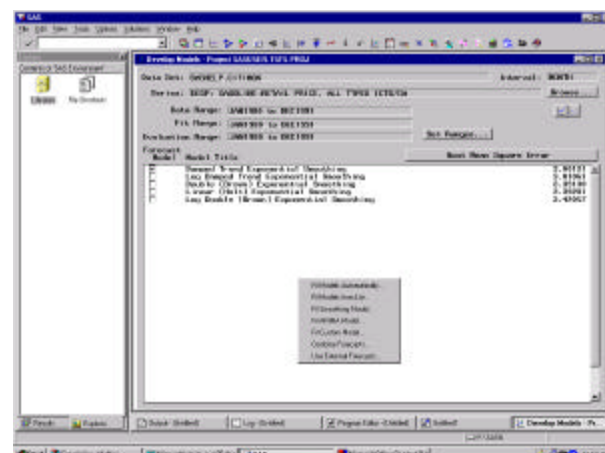
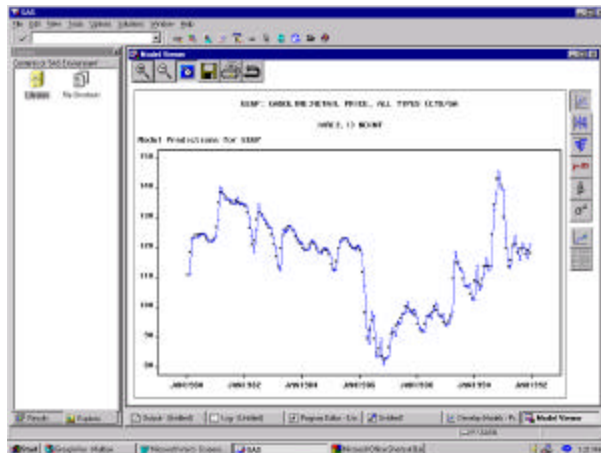
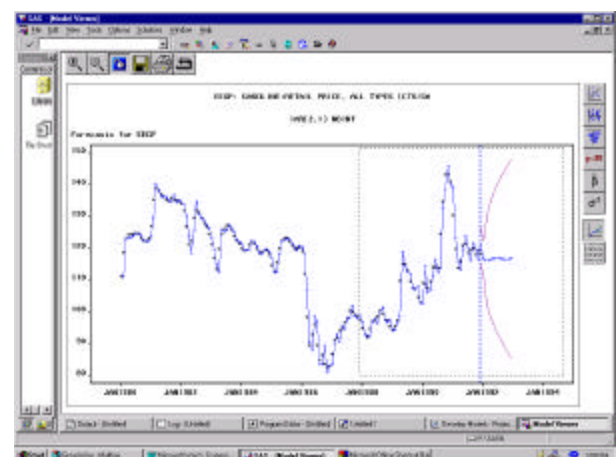
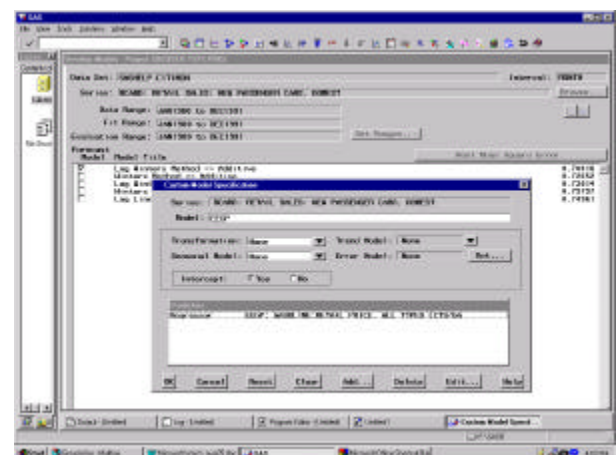

Figure 16 Develop Models
Figure 18 Model Viewer
Figure 20 Zooming In on Plot Forecasts
Figure 23 Custom Model Specification
The plot of first differences shows no obvious evidence of a trend remaining in the series, and the autocorrelation plot is consistent with a stationary series. Examination of the autocorrelation and partial autocorrelation plots suggests that an autoregressive model in first differences might be appropriate, that is, an IAR(2,1) model. Clicking on the **Goback** icon on the right along the top returns you to the **Develop Models** screen (see Figure 16).
hence, is the best model found so far according to the RMSE criterion. The IAR(2,1) model was not found before because it did not appear on the **Model Selection List**. You will see how to add a model to the list later. For now, highlight the IAR(2,1) model, right-click and select the first choice on the popup menu, **View Model....** This brings up the **Model Viewer** screen (see Figure 18).
- Model Predictions (the default in Figure 18)
Click on **Ok** to return to the **Develop Models** screen. To see the forecasts for the IAR(2,1) model, click on the line for that model to highlight it (it should be the last model in the list). Clicking on the **View Model** button on the upper right (see Figure 16) brings up the **Model Viewer** screen (see Figure 18). Click on the second button from the bottom on the right, **Forecast Graph**. To zoom in on the end of the series, click on the **Zoom In** button at the left along the top. The mouse pointer changes its appearance; holding down the left mouse button, trace out a box including the last few years of the graph (see Figure 20).
Now we will see if you can improve the forecasting model for RCARD by using EEGP as an explanatory variable. When you fit automatic models to both EEGP and RCARD, you found that the best fitting model for RCARD was the Log Winters Method – Additive, which had an RMSE = .70. The Winters Method – Additive had only a slightly larger RMSE of 0.72. To use EEGP as an explanatory variable in a model for RCARD, return to the **Develop Models** screen (see Figure 16) and select RCARD as the Series. Click in a blank area of the screen and select **Fit Custom Model...** to get the **Custom Model Specification** screen. In the lower portion of the screen labeled Predictors, right click and select **Add Regressors...** and select EEGP. The result is Figure 23.